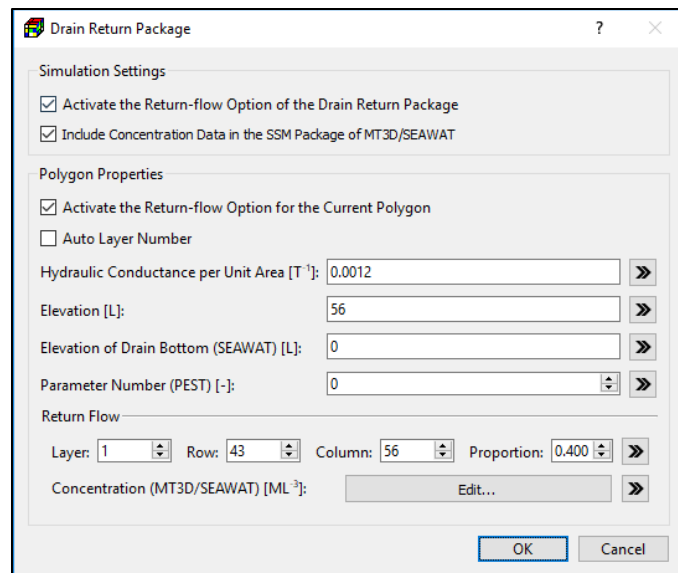

Figure 50. The Drain Return Package dialog box for specifying polygon properties
4. **Polygon input method:** Figure 50 shows the dialog box that is used to specify polygon properties.